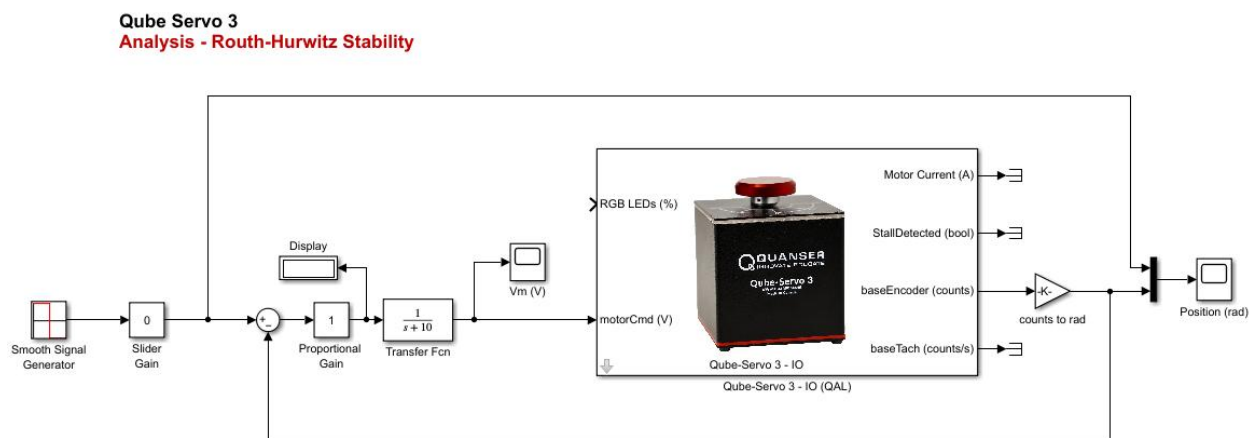

Figure 1: Simulink model used to test stability of Qube-Servo 3
Using the gains found to convert encoder counts into rads from the instrumentation labs update the qs3_routh_hurwitz.slx file to match Figure 1. Leave the disconnected gain block.
Build the Simulink model shown in Figure 1, if it has not already been provided, use a previous model as a start.
Now that the theoretical stability of the system has been calculated, these calculations can be validated on hardware. Create or open the Simulink model from Figure 1.
- Open the `qs3_routh_hurwitz` model shown in Figure 1.